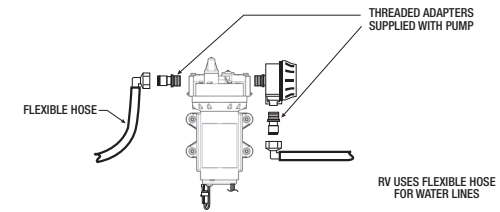
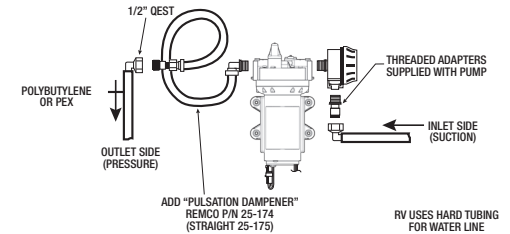

FIGURE 5
FIGURE 6
4. Survey the existing plumbing and identify the suction line (i.e. the line going from the water holding tank to the pump). For the quietest possible operation of the Aquajet pump, you should try to isolate the pump mechanically from your RV’s typically hard Polybutylene or PEX tubing. If your RV is currently plumbed with soft-walled, reinforced hose (see Figure 5, page 15), then your system should be perfectly sufficient as is. By installing a piece of IAPMO approved cold water hose (such as ‘Accuflex’ Series 136) between the pump outlet port and your RV’s hard plumbing, you will achieve the quietest possible pump operation. Remco also offers, as an optional accessory, a 39” long pre-assembled hose with fittings (Remco product number 25-174) that will adapt directly to the Aquajet RV and your existing plumbing. Please refer to Figures 6 and 7, page 15.
- At the end of your survey you should have determined how to wire the Aquajet pump. Your alternatives are illustrated in Figure 1, page 13 (“no change”, also applicable for single switch systems), Figure 2 page 13, Figures 3, 4 or 8, page 15. You should also have determined how to plumb the pump. Your options are Figures 5, 6 or 7, page 15. Always make sure you have all hardware needed before you start the actual installation.
3. Survey the existing plumbing and identify the suction line (i.e. the line going from the water holding tank to the pump). For the quietest possible operation of the Aquajet pump, you should try to isolate the pump mechanically from your RV’s typically hard Polybutylene or PEX tubing. If your RV is currently plumbed with soft-walled, reinforced hose (see Figure 5, page 15), then your system should be perfectly sufficient as is. By installing a piece of IAPMO approved cold water hose (such as ‘Accuflex’ Series 136) between the pump outlet port and your RV’s hard plumbing, you will achieve the quietest possible pump operation. Remco also offers, as an optional accessory, a 39” long pre-assembled hose with fittings.
(Remco product number 25-174) that will adapt directly to the Aquajet pump and your existing plumbing. Please refer to Figures 6 and 7, page 15.
- [For old pump outlets connected to hose, as in Figure 5, page 15] Insert O-ringed end of (Qest) threaded adapter into outlet port (marked with arrow pointing away from pump) of the Aquajet pump. Lock fitting in place by pushing down retainer slide.
7b. [For old pump outlets directly connected to hard tubing, as in Figure 6, page 15].
8a. [If the Aquajet pump is to be directly plumbed to the existing inlet filter/fitting, as in Figures 5 and 6, page 15].
12. If an Accuflex hose adapter is used on the outlet side (see Figures 6 and 7, page 15), place the other end of the hose adapter up high. This should stop water from being siphoned out.
- 17a. [If you are plumbing per Figure 5, page 15]
- 17b. [If you are plumbing per Figures 6 or 7, page 15]
20. Water should be flowing into bucket (see Figures 6 and 7, page 15) or into the sinks (see Figure 5, page 15).